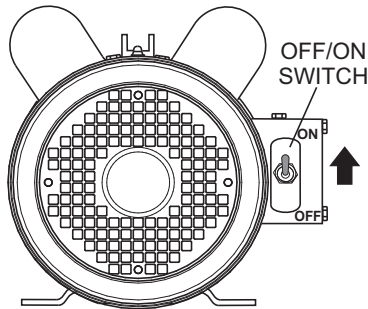

Figure 26. Electric Motor ON/OFF Switch (ON)
2. To start the electric motor (Figure 26), place the ON/OFF switch in the **ON** position.